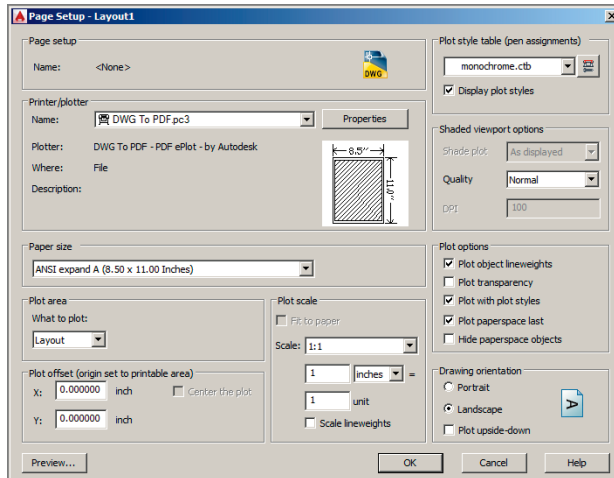

FIGURE 13.12 Configuring a page setup
- ▶ If you are using Imperial units, select ANSI Expand A (8.50 × 11.00 Inches) as the paper size (see Figure 13.12). Leave the plot scale at 1 inch = 1 unit. Click OK, and then click Close.